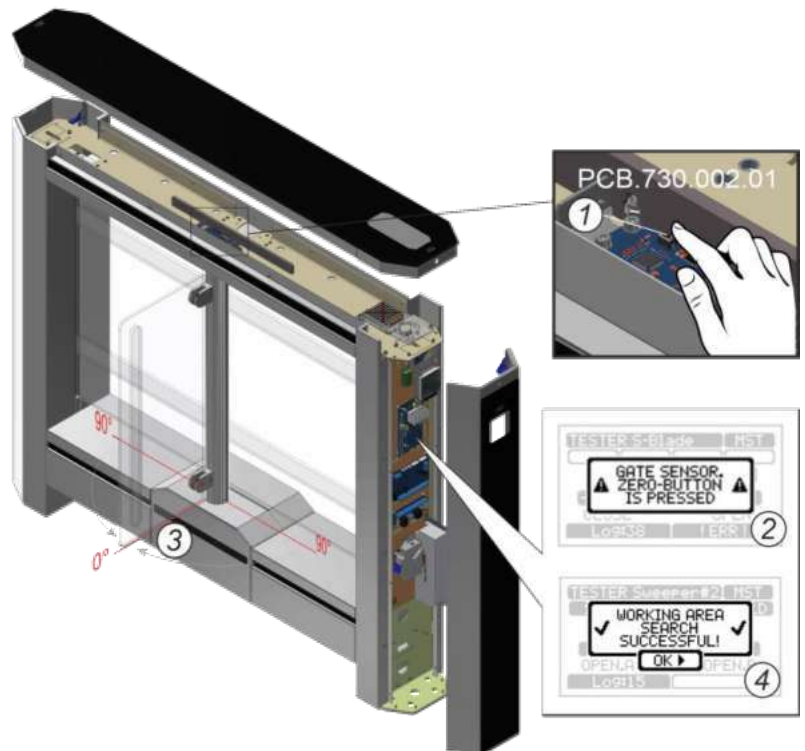

Fig.24 –Adjustment of the leaf zero position using the "zero" button with PCB.730.002.01
**Option 1: (with PCB.730.002.01 fig.24)**
- Press and hold the **ZERO (1)** button on the PCB.730.002.01 controller of the leaf magnetic sensor. The turnstile will go into «OFF» mode and a message (2) «gate sensor zero-button is pressed» will appear on the display of the AUIA.401.00.00-01 controller.
- While holding the **ZERO (1)** button manually set the zero point of both leaves of Master and Slave cabinets (**CLOSE position (3)**)
- After releasing the **ZERO (1)** button the turnstile will save the user-set point as zero (**CLOSE position (3)**).